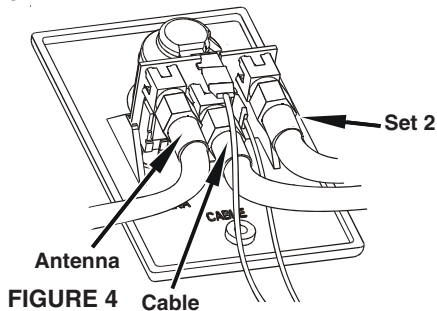
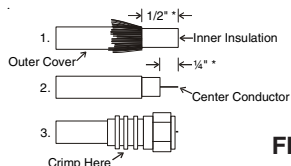

FIGURE 4 Cable
FIGURE 5
STEP 5. Install connectors on download and set 2 cable as shown in Figure 5. Attach download cable to jack on wallplate/amplifier marked antenna as shown in Figure 4. Attach cable going to set 2 outlet to jack on power supply marked SET 2. Attach cable coming from cable input to jack on power supply marked CABLE.